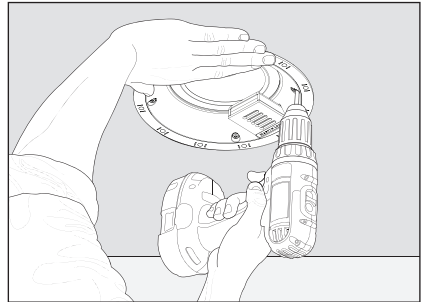

Fig. 5d
10. Supporting the assembly with one hand, tighten each screw using the electric drill and Torx T20 bit. Stop tightening when you sense resistance (Figs. 5d & 6e). MC6-HT: Before tightening screws orient speaker so the drivers are positioned towards the desired position.